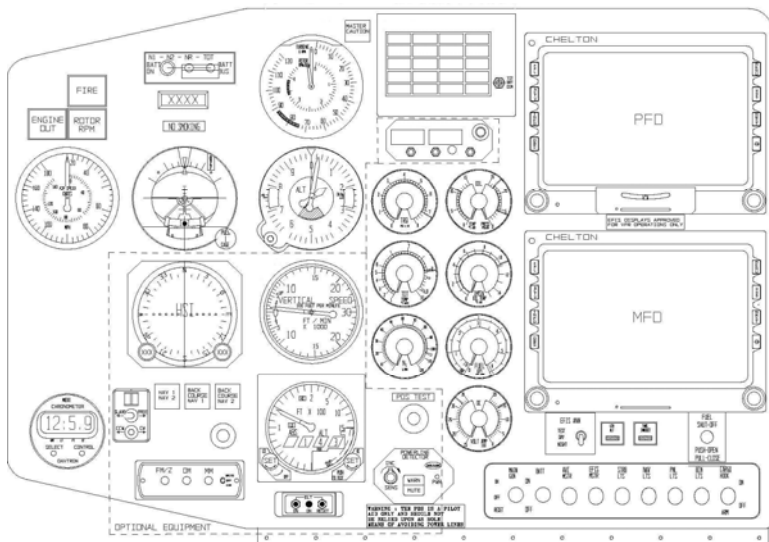

Figure 7-1. Partial Wide Instrument Panel
1. The Partial Wide Instrument Panel (Figure 7-1) accommodates a combination of traditional instruments and a Chelton EFIS system. The configuration provides the dual flight and navigation instrument functions, allows for both traditional instrument and EFIS training, and allows the Enstrom 480B model to retain flexible cabin seating capability.
3. Instruments, controls, and indicators not shown in Figure 7-1 are shown in the Basic RFM chapter/section which describes their related systems.